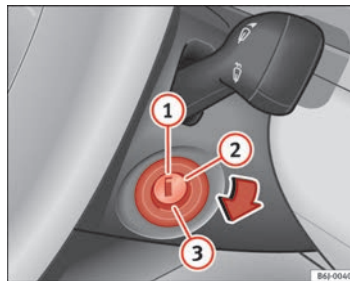

Fig. 98 Ignition key positions
In this position → Fig. 98 the ignition and the engine are OFF and the steering may get locked.
- Turn the ignition key to position ⇒ Fig. 98 ②. The warning lamp ∞ will light for engine pre-heating.
- When the lamp turns off, turn the ignition key to position ③ to start the engine. Do not press the accelerator.
- Turn the ignition key to position ⇒ Fig. 98 ①.